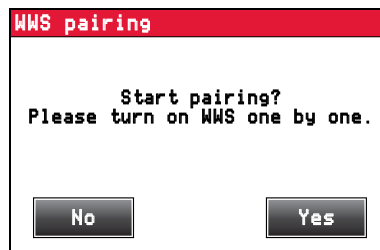

Figure 3-7. Start Pairing
9. Press to start pairing process. A prompt displays (Figure 3-7). Do not press anything at this time.
12. Press in the prompt window (Figure 3-7) to start the pairing process. **Connecting...** displays alongside the ID number.